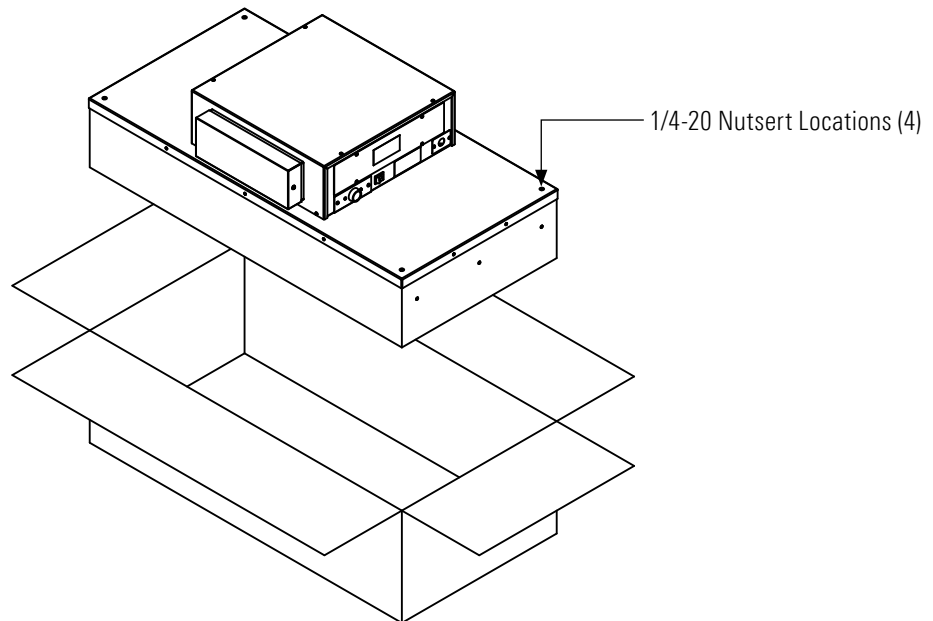

FIGURE 1 : UNBOXING
Step 1: Carefully remove the unit from the shipping carton and inspect for any damage that may have occurred during transportation. (See Figure 1.)
Step 3. If using rigidly supported grid (usually 2" (50 mm) or wider), raise unit through ceiling and lower onto the gasketed grid. If using a flexible grid (typically supported with wires), the unit must be secured to an engineered support system with eyebolts, s-hooks, and chain. Screw the four eyebolts into the nutserts on the lid assembly before lifting into an overhead position. (See Figure 1, above.)